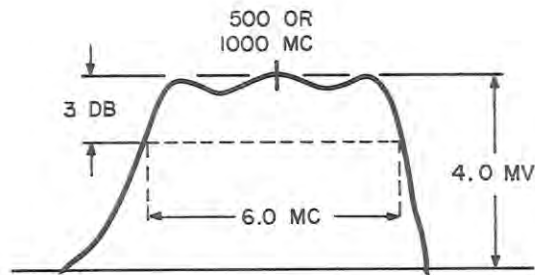

Figure 5-11. 490-1000 Mc RF Tuner Response Waveform at J3.
- l. The RF response displayed on the oscilloscope should have the characteristics illustrated in Figure 5-11.
- n. The marker should remain centered on the response waveform over the tuning range and the response waveform shape should remain essentially as illustrated in Figure 5-11. Slight re-adjustment of the capacitors in step k. may be necessary to obtain a suitable response over the tuning range.